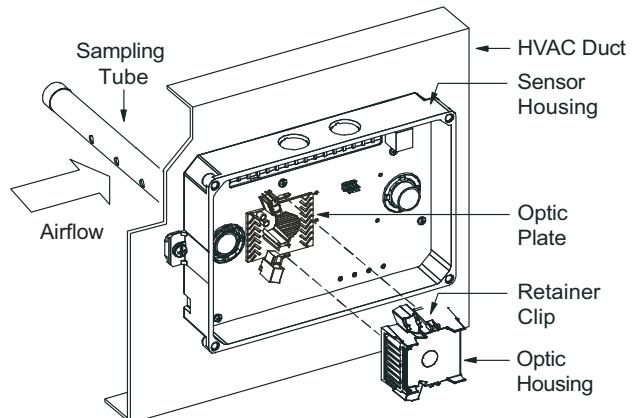

Fig. 56 – Sensor Cleaning Diagram
1. Disconnect power from the duct detector then remove the sensor's cover. See Fig. 56.